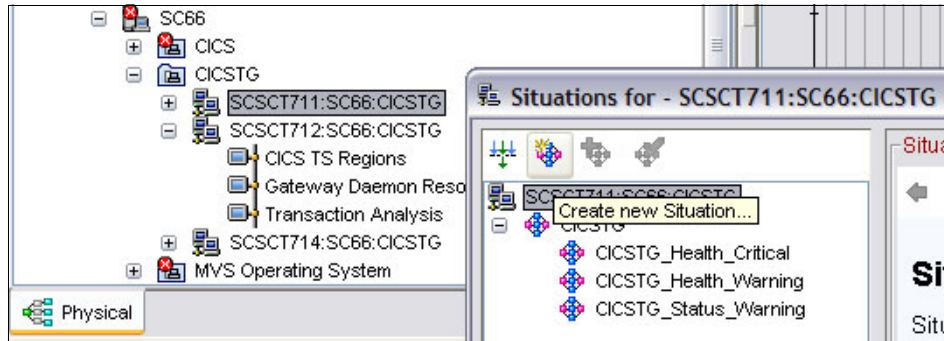

Figure 5-6 Create situation
3. Click the **Create Situation** icon in the top left hand corner, as shown in Figure 5-6 on page 183. This results in a Create Situation pop-up menu.